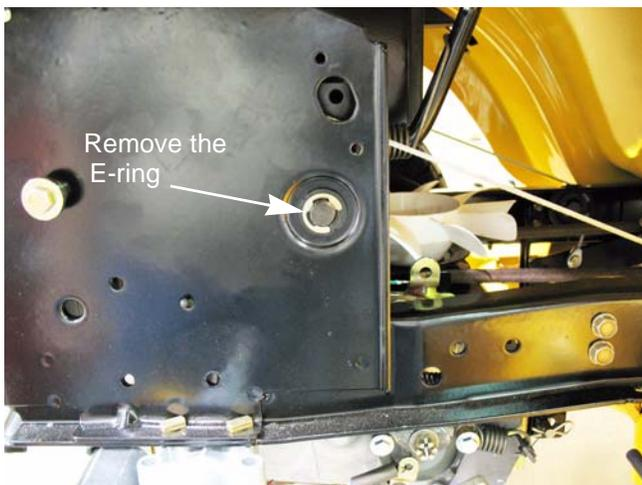

Figure 8.33
2. Remove the E-ring that retains the lift shaft bushing. See Figure 8.33.